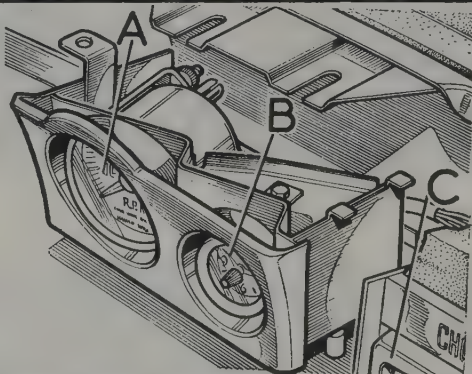

Fig. 10.33. Clock and tachometer (Three thousand five models)
- 3 Remove the top facia rail. To do this, the clock and tachometer will first have to be removed (Fig.10.33 or 10.34).